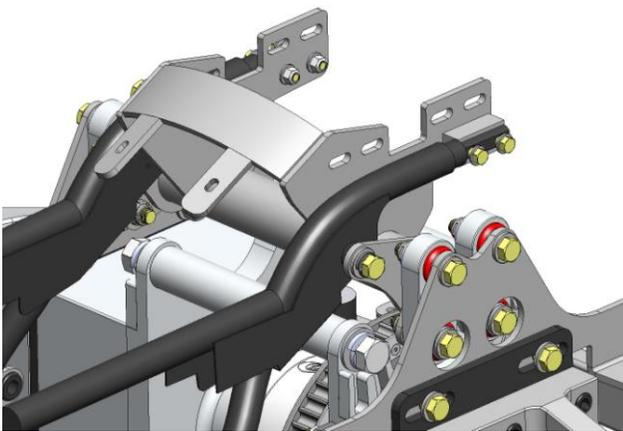

Figure 13
- a. Raise unit to Top Frame and install 1/2-13x1-1/2" bolts, washers and nylock nuts. Snug the bolts, these will need to be loosened for rocker alignment done later. See Figure 13